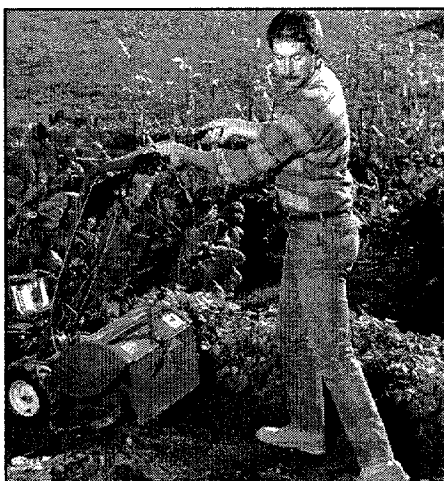

Figure 4-3: Raise tines off ground and look behind when moving in reverse.
- (b) Stop all forward motion before reversing. Lift the handlebars with one hand until the tines are off the ground and then pull the Maneuvering Clutch lever out to engage reverse motion (see Figure 4-3). To stop reverse motion, let go of the Maneuvering Clutch lever.